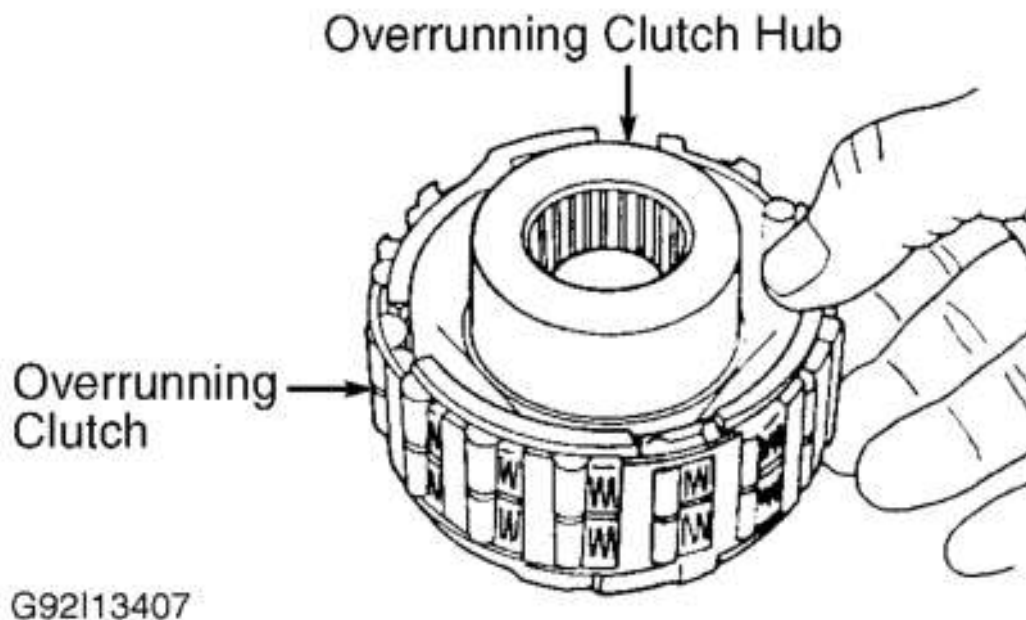

Fig. 46: Installing Overrunning Clutch
4. Slide direct clutch drum forward. Install inner retaining ring. Install overrunning clutch on overrunning clutch hub. See **Fig. 46** . Shoulder on overrunning clutch should seat in small recess at edge of overrunning clutch hub.